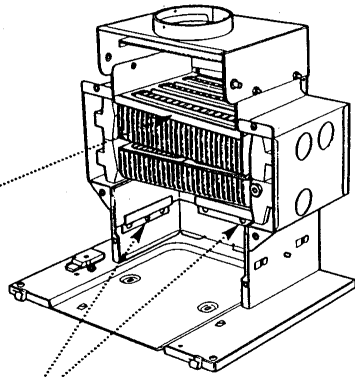

Fig. 46
2. Remove the side and rear insulation pieces by undoing the screws retaining the support brackets and sliding the rear bracket to the left and both side brackets forward (Fig. 46, 47, 48 & 49).